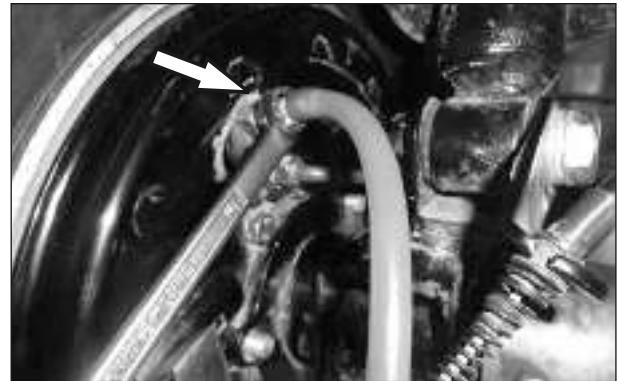

Fig. 2.73
- Loosen the bleeder screw with a brief ¼ turn to release fluid into the waste line. The screw only needs to be open for one second or less. (The brake pedal will "fall" to the floor as the bleeder screw is opened. Instruct the assistant in advance not to release the brakes until instructed to do so.). (Fig. 2.73)